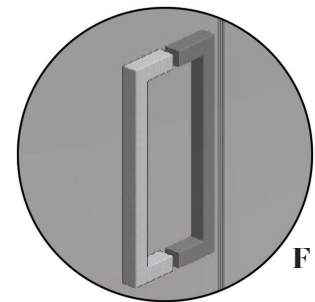

FIG 24.
- Remove the handle from the wrapper, dismantle and re-assemble onto either side of the door. Take care to ensure the plastic bushes are located inside the locator holes and the locking hex screws are tightened so the handle is tight and secure (**FIG 24**).